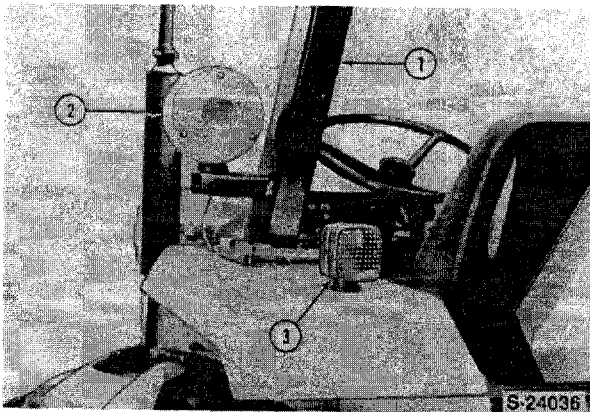

Figure 33
4. Disconnect the flasher warning light wire connector at the light fixture, Figure 33.